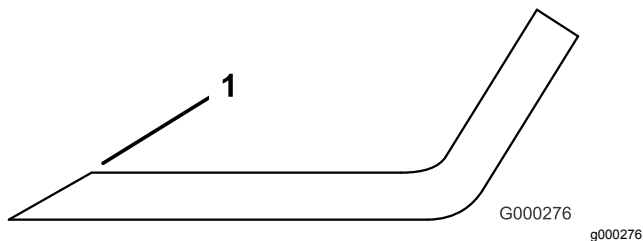

Figure 31
3. Examine the cutting edges of all of the blades and sharpen the cutting edges if they are dull or nicked (Figure 31).
Note: Sharpen only the top of the cutting edge and maintain the original cutting angle to ensure sharpness (Figure 31). The blade remains balanced if the same amount of metal is removed from both cutting edges.